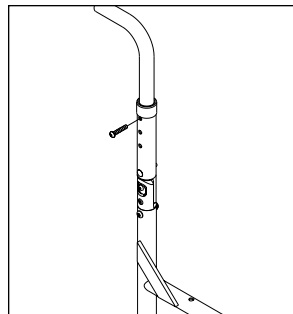

Figure 13
3. Backrest Height Adjustment (Fig. 13)